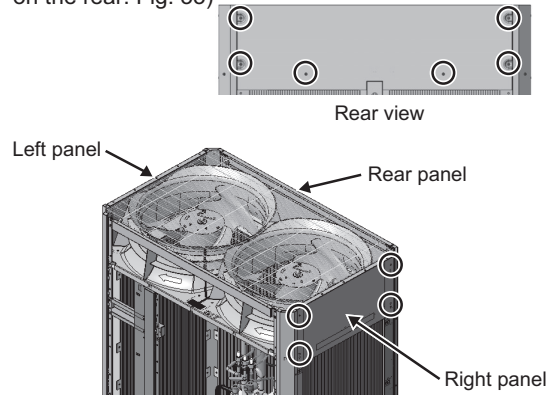

Fig. 33
- (5) Remove the top panel except the front panel. (Four screws on the left and right each, and six screws on the rear: Fig. 33)